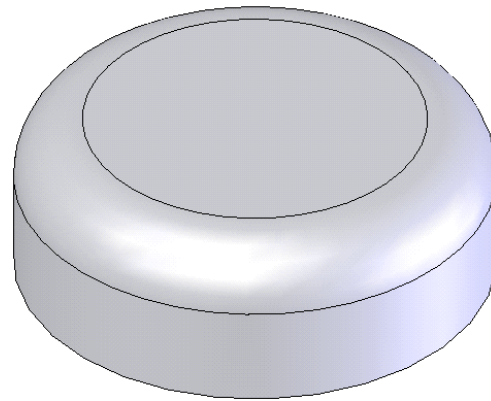

Figure 8-67 Base feature of the model
3. Using the **Revolve** tool create the base feature of the model. The base feature of the model is shown in Figure 8-67.